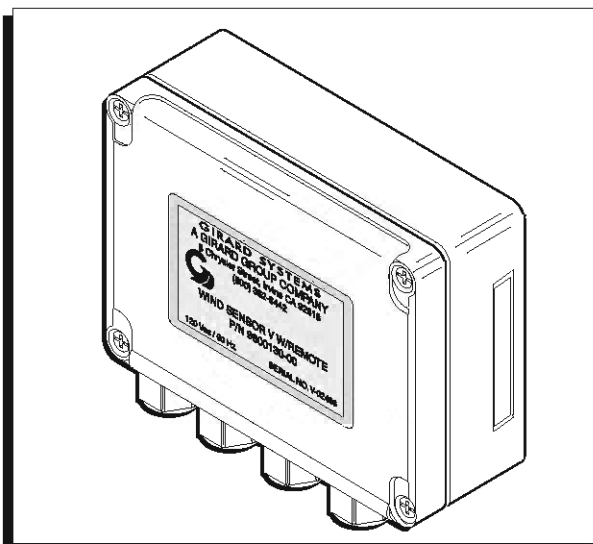

FIGURE 27 CONTROL BOX
2. Use screwdriver to remove faceplates of both control box and ACL current-limiting device (Figs. 27 and 28).